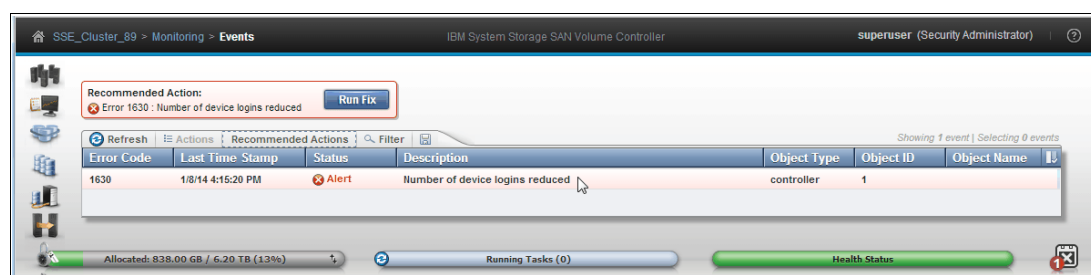

Figure 15-15 Recommended Action panel
For any problem in an environment that is implementing the SAN Volume Controller, use the Recommended Actions panel before you try to fix the problem anywhere else. Find the Recommended Actions panel by clicking **Monitoring** $\varnothing$ **Events** $\varnothing$ **Recommended Actions** in the SAN Volume Controller Console GUI, as shown in Figure 15-15.
1. Check the Recommended Actions panel by clicking **Monitoring** $\emptyset$ **Events** $\emptyset$ **Recommended Actions**, as shown in Figure 15-15 on page 541.